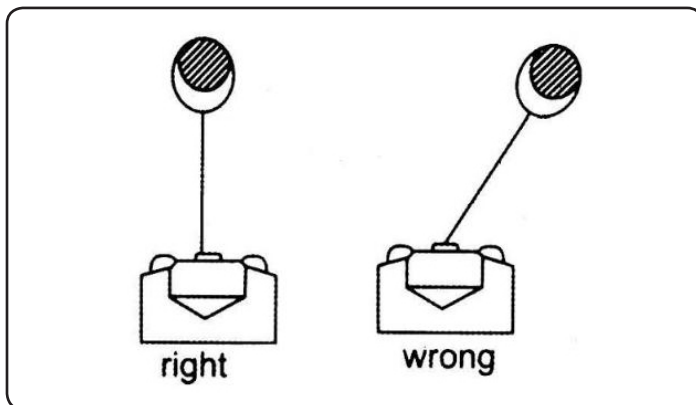

Figure 2.
- Avoid side pulls. These can pile up winch cable at one end of the drum and cause damage to the winch, cable, guides and vehicle (Figure 2).